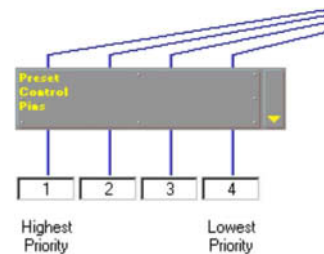

Figure 55 – Priority Encoding for four Presets
- d) If you are using priority encoding for control input, enter the appropriate preset numbers under the preset control block (see figure 55 on the following page).
For control input, the preset control block displays a value box beneath each pin for specifying preset numbers, as pictured to the right in figure 55. When the block initially appears, the default values start at one and increment from left to right. These values can be changed by clicking in each box and typing any number, from 1 to 128. In the event that a user inadvertently presses a combination of the external control switches, the device will change to the highest priority preset.